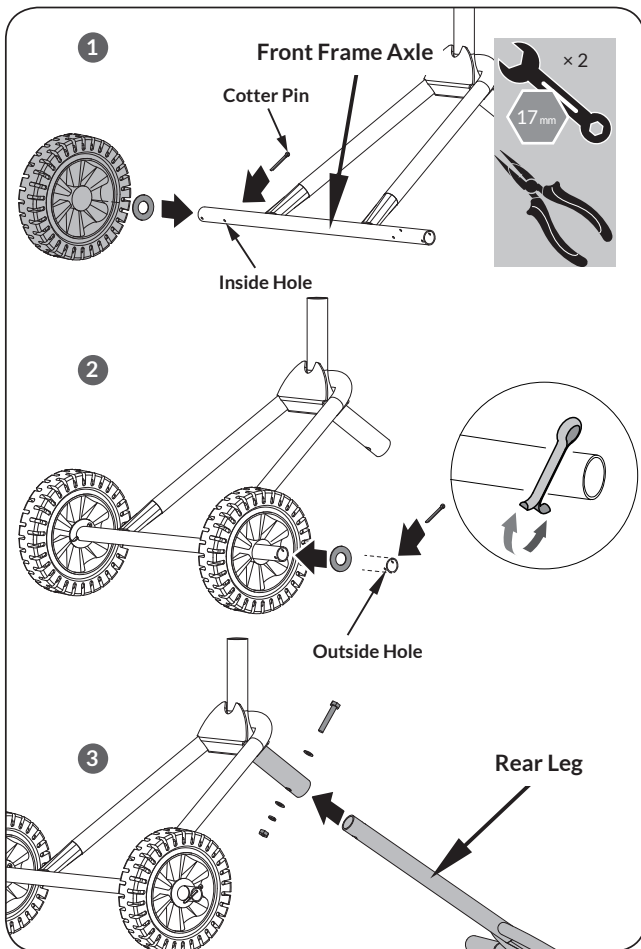

Figure 1a
1. Insert a cotter pin into the inside hole on each side of the front frame axle. Then, slide a flat washer and a wheel onto each side of the axle. (See **Figure 1a, Illustration 1**) Secure each wheel with a flat washer on the outside, and then insert a cotter pin on each side in the outer hole. Bend and spread all the cotter pin prongs in opposite directions. (See **Figure 1a, Illustration 2**).
2. Insert the rear leg of the stand into the front frame. (See **Figure 1a, Illustration 3**) Insert an M10x60 bolt with arc washer through the hole from upper side. Then, put an arc washer, lock washer, and nut on the bolt from the other side. Secure tightly with wrenches.